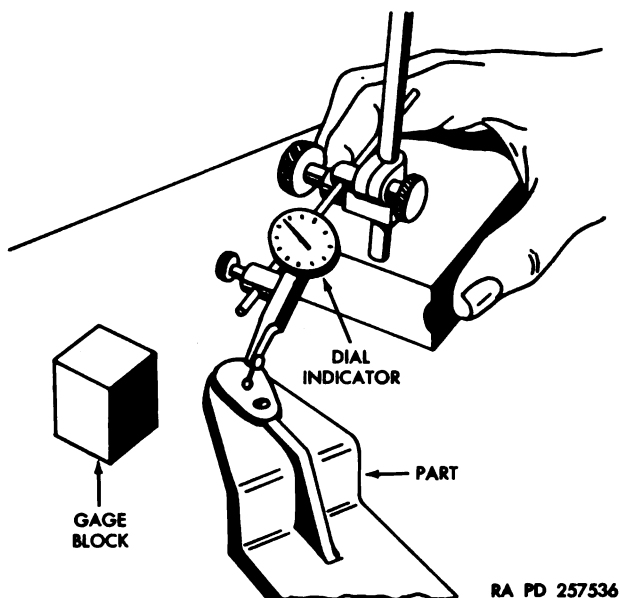

Figure 66. Surface gage used with dial indicator.
- (2) *Precision checking.* A surface gage used with a dial indicator makes the combination a precision measuring tool. Figure 66 shows the surface